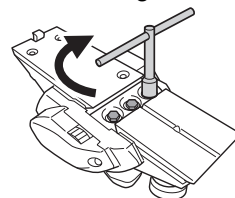

Fig. 14
- (3) As shown in Fig. 14, fix the bolts at the blade holder after blade replacement has been completed.
- (4) Turn the cutter block over, and set the other side in the same manner.